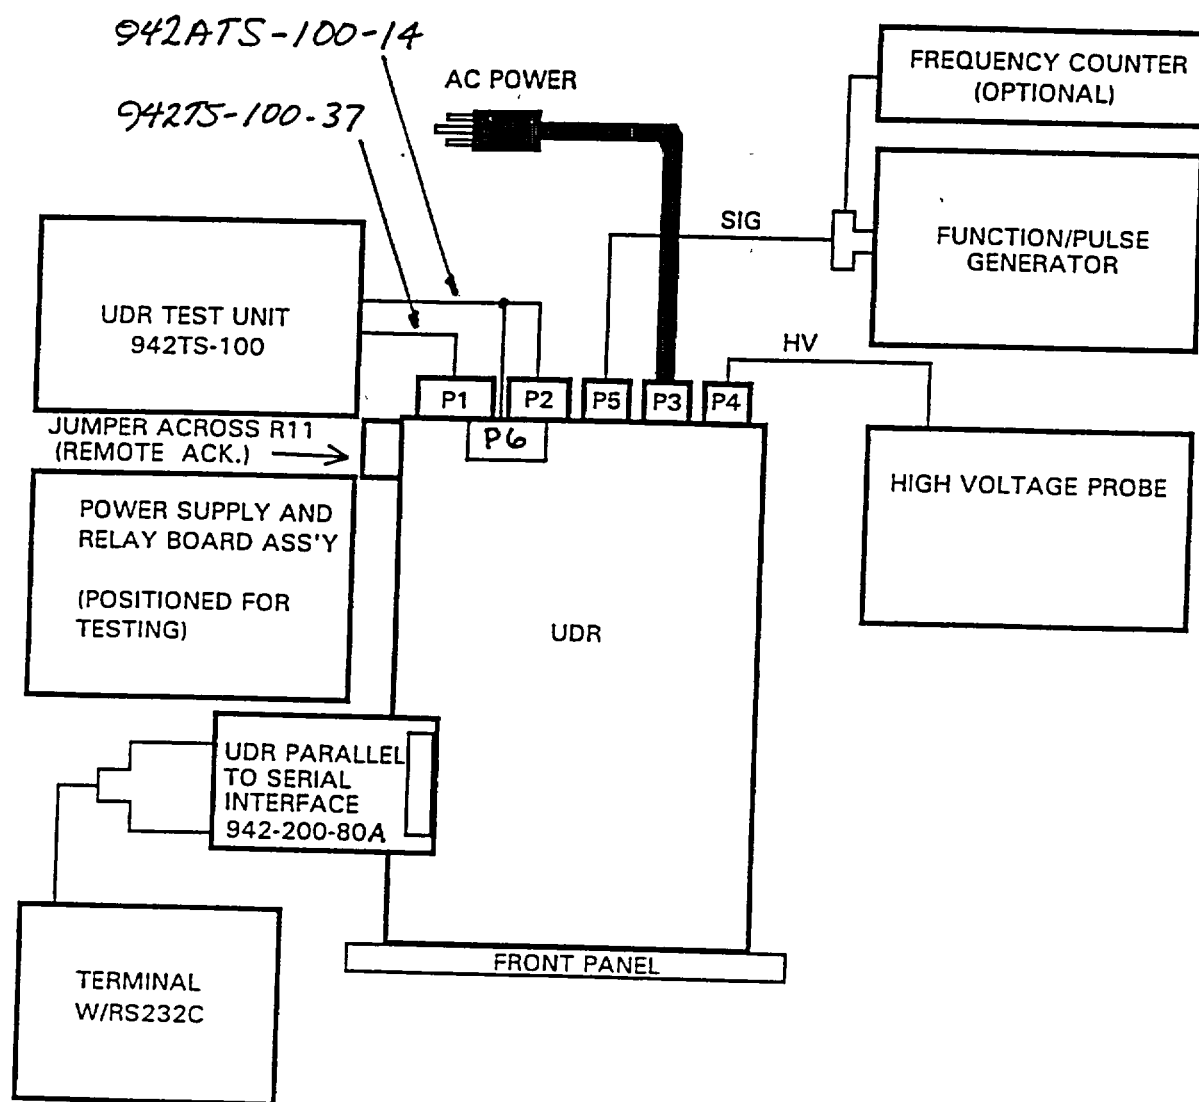

FIGURE 1
5.0 SET-UP (See Figure 1)
- 9.7 Connect 942TS-100 Test Set cables to the "P1 I/O", "P2 DET.", and "P6 AUX" connectors located on rear panel. See Figure 1.